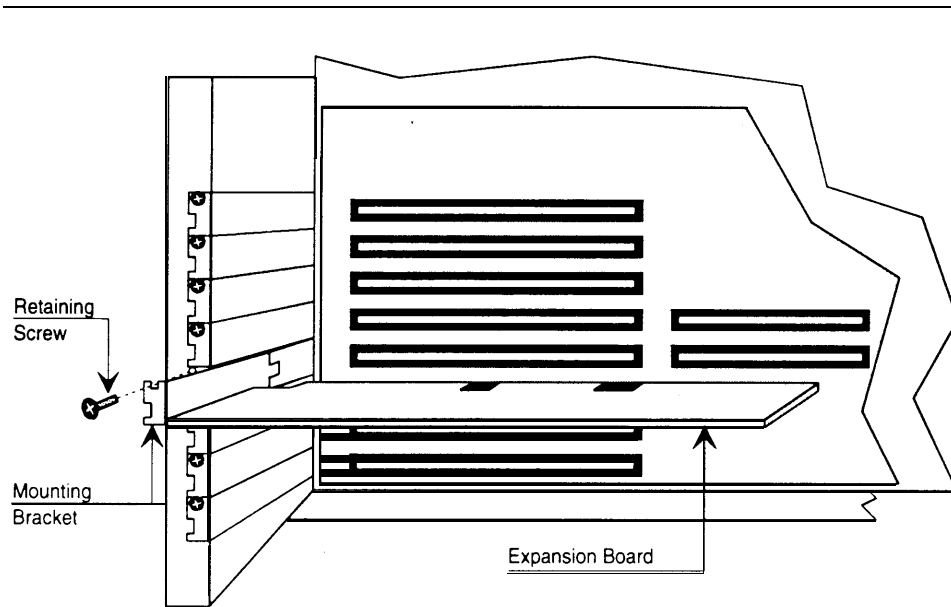

Figure 3-29. Installing or Removing Expansion Board
8. Refer to Figure 3-29. Slide the expansion board into the slot. For full-length boards, use the plastic guide on the far right and the slot opening on the left to align the board with the connectors.